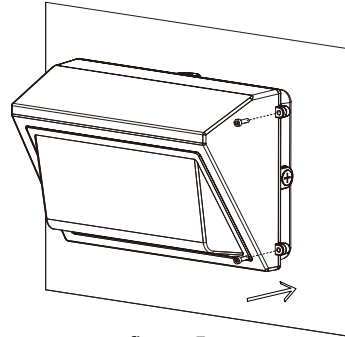

figure 5
**Step 5** Make sure all wiring access holes are sealed properly for waterproofing purposes. (figure 5)